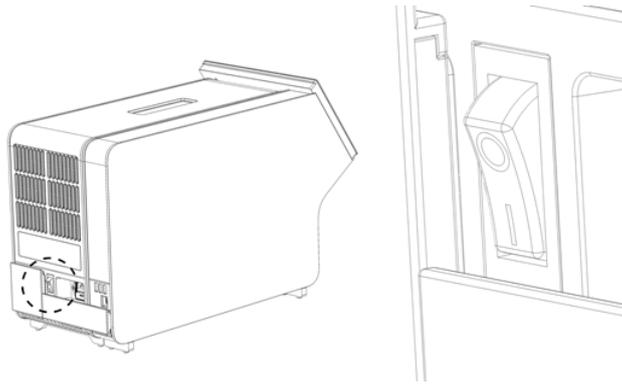

**Figure 10. Connecting the power cord.**
7. Connect the power cord that was delivered with the QIAstat-Dx Analyzer 2.0 to the back of the Analytical Module (Figure 10).